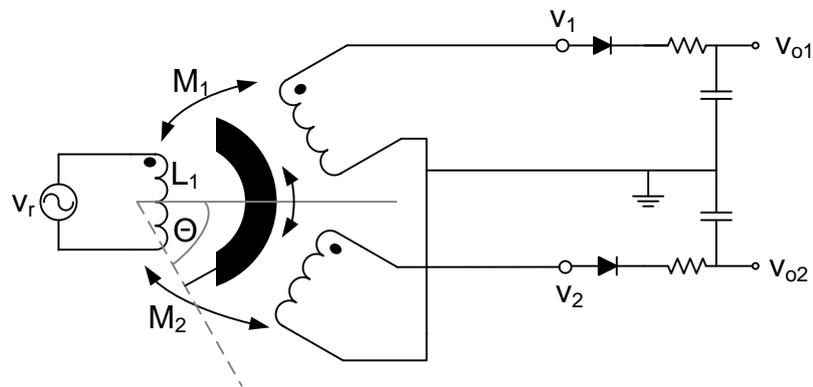

Figure 9: Double-sided rectifier with low-pass filter.
- (5p) (g) In stead of a phase sensitive detector, it is also possible to connect the output signal of the RVDT to a double-sided rectifier with a low-pass filter as is shown in Figure 9. Is it possible to reconstruct from the output signal ($v_{o2} - v_{o1}$) the direction (positive or negative angle)? (Explain your answer.)